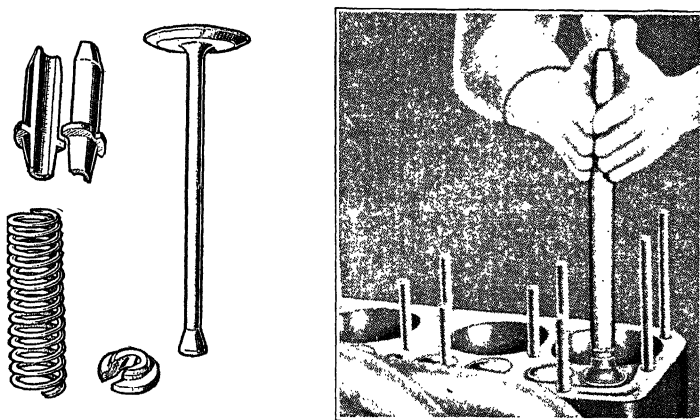

Fig. 18. Left —Ford Model "A" Valve, Valve Guide, Spring, and "Horseshoe"
**Grinding Ford Model "A" Valves.** The Ford Model "A" valves are not provided with any slot or valve tool holes. This requires the use of a vacuum cup valve grinding tool, such as illustrated in Fig. 18. The operation is exactly the same outside of the fact that no spring need be used since the valve is held to the valve grinding tool by means of suction or vacuum and lifting on the valve tool will lift the valve from its seat.